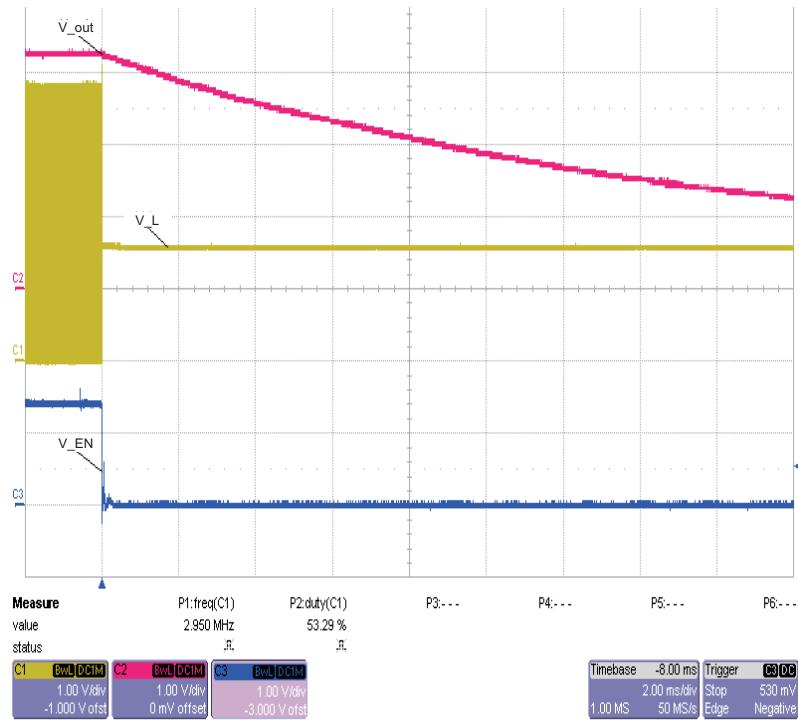

Figure 3. Power Down With Enable: Boost Switch Node, V_L, Output, Enable; Vin = 1.5 V, Vout = 3.3 Vdc With 49.9- Ω Load
4. Move shunt on JP1-ON to JP1-OFF, and verify that the boost converter is disabled (see Figure 3).